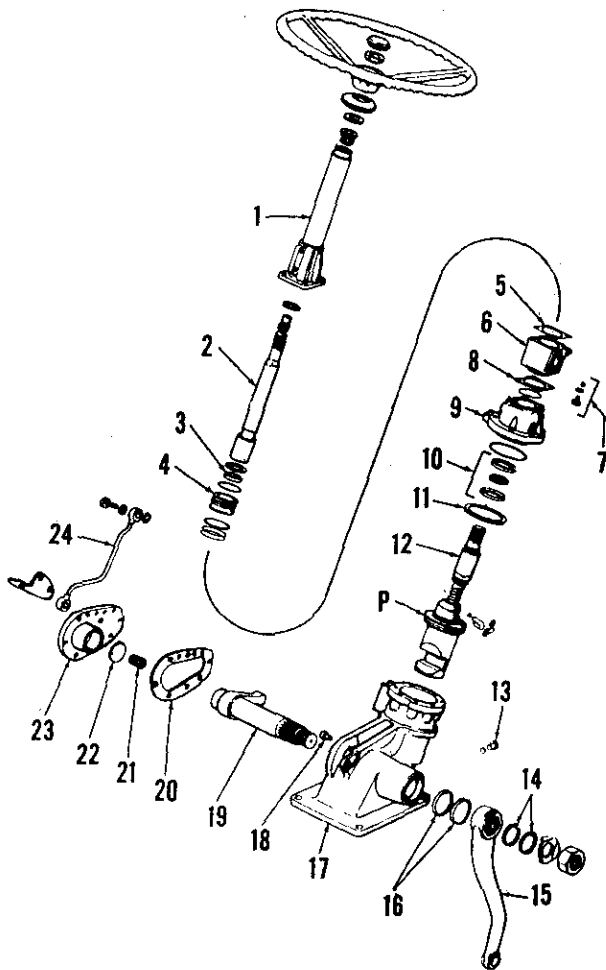

Fig. 27—Exploded view of late power assist steering gear.
34. Late power steering models use the integral power assist unit shown schematically in Fig. 26 and exploded in Fig. 27. A piston is built into the shaft ball nut and a cylinder machined into the gearcase housing; and the entire case unit is pressurized by the steering oil. Control is by means of a rotary valve which is built into piston and ball nut unit (12) and is not available separately. The pressure passage to top of piston (P) is internal while lower end is pressurized by external flow through pressure tube (24). The piston and ball nut moves **upward** for a right-hand turn. Manual operation of steering gear is made possible by a check ball (7) located in valve housing which recirculates oil within gear housing when pump is inoperative.
Fig. 26—Schematic view of late power steering gear unit used on some models. Steering cylinder is built on ball nut and gear unit is pressurized. Refer to Fig. 27 for exploded view.
36. OVERHAUL. Before disassembling the removed steering gear, temporarily reinstall steering wheel and disconnect external oil feed pipe (24—Fig. 27). Turn steering wheel from lock to lock several times until as much fluid as possible is pumped from housing.
Remove the four stud nuts securing steering column (1—Fig. 27) and lift off the column and shaft (2). Remove and save shim pack (5). Install the oil seal protector sleeve (Tool SW 23/1) over steering shaft spline as shown in Fig. 29, gently tap valve housing (6) away from bearing housing (9) and lift off valve housing, saving bearing adjustment shims (8) as valve housing is removed.
Remove cap screws retaining bearing housing (9—Fig. 27); then, turning splined end of steering shaft counter-clockwise, force bearing housing (9) and bearing (10) up and out of ball nut and main gear housing. Shaft bearing (10) contains fifteen 5/16-inch diameter loose steel balls which are free to fall as the parts are
Install bearing housing (9—Fig. 27) and tighten retaining cap screws to a torque of 15-20 Ft.-Lbs. Slide lower race of bearing (10) into bearing housing bore, grooved side up, then install the 15 steel balls in bearing groove using clean grease.
Position Oil Seal Protector Sleeve (SW 23/1) over shaft splines as shown in Fig. 33; then, omitting bearing adjusting shim pack (8—Fig. 27), install control valve housing. Tap housing lightly into place until it bottoms and, using a feeler gage, measure the clearance between bearing housing and valve housing as shown in Fig. 33. Install a shim pack (8—Fig. 27) equal to the measured clearance minus 0.003. Shims (8) are available in thicknesses of 0.004, 0.005, 0.010 and 0.025. Shim pack must be accurate to within 0.0015. Shim pack (8) controls preload of worm gear bearing (10).
With bearing pre-load correctly adjusted, assemble and install steering column, upper steering shaft and bearing washer. Omit shim pack (5) on trial assembly. Make sure steering column is bottomed on steering shaft splines; then measure clearance between steering column flange and valve housing as shown in Fig. 34. Install shim pack (5—Fig. 27) equal to the measured clearance PLUS 0.005. Shim (5) is available in 0.005 thickness only. Tighten steering column stud nuts to a torque of 25-30 Ft.-Lbs. Complete the assembly by reversing the disassembly procedure. Tighten ex-